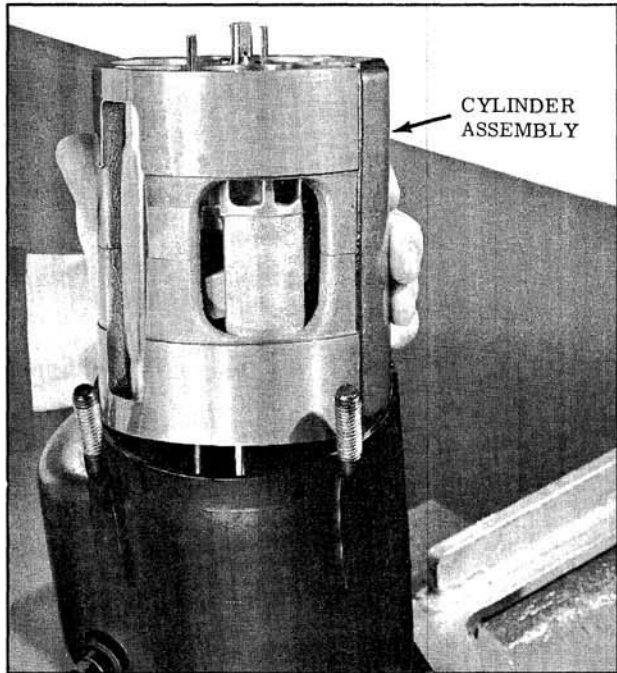

Fig. 14-121 Removing Cylinder From Housing
1. Remove the cylinder assembly from the rear of the compressor housing by pushing on the compressor shaft. (Fig. 14-121)